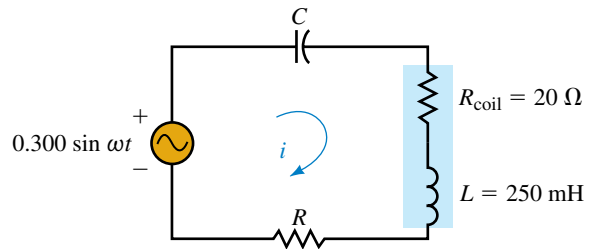

FIGURE 21-51
6. Suppose that the circuit of Figure 21-51 has a resonant frequency of $f_s = 2.5$ kHz and a quality factor of $Q_S = 10$: